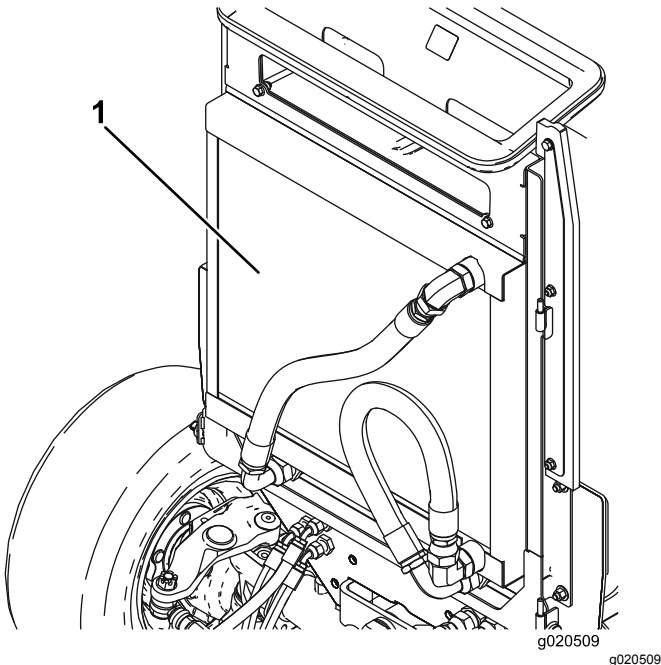

Figure 91
4. Thoroughly clean both sides of the oil cooler and the radiator with compressed air (Figure 91).